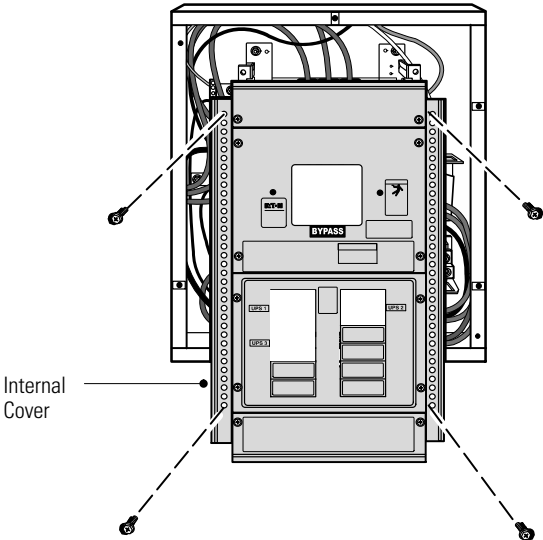

Figure 7. Internal Cover
- 6. Remove the internal cover to gain access to the breakers (see Figure 7).